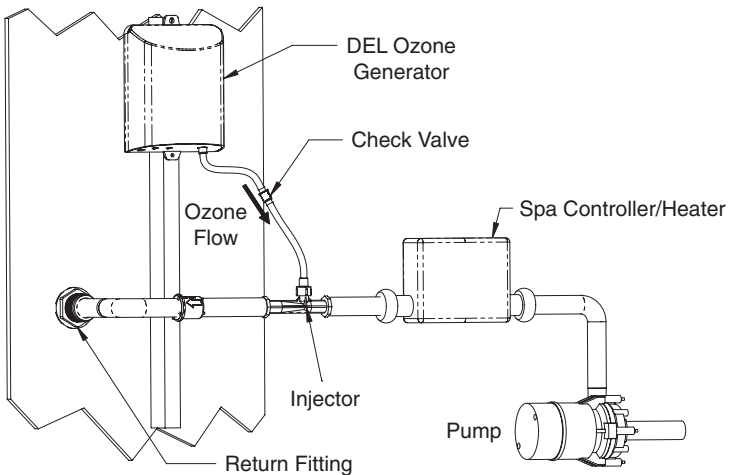

Figure 1: Typical Injection System
6. Plumbing – Vacuum System (refer to Figure 1)
- a. Most spas are factory equipped with an ozone injector, like the one shown in Fig. 1. Review your Spa's Installation Manual to identify the correct ozone connection location.
7. Plumbing – Ozone Generator (refer to Figure 1)